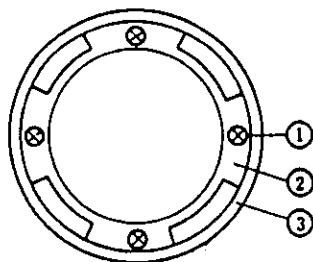

Fig. 7
- Loosen the four screws (1) in Fig. 7 and move (2). The relative positions of (2) and (3) determine Tele focus.